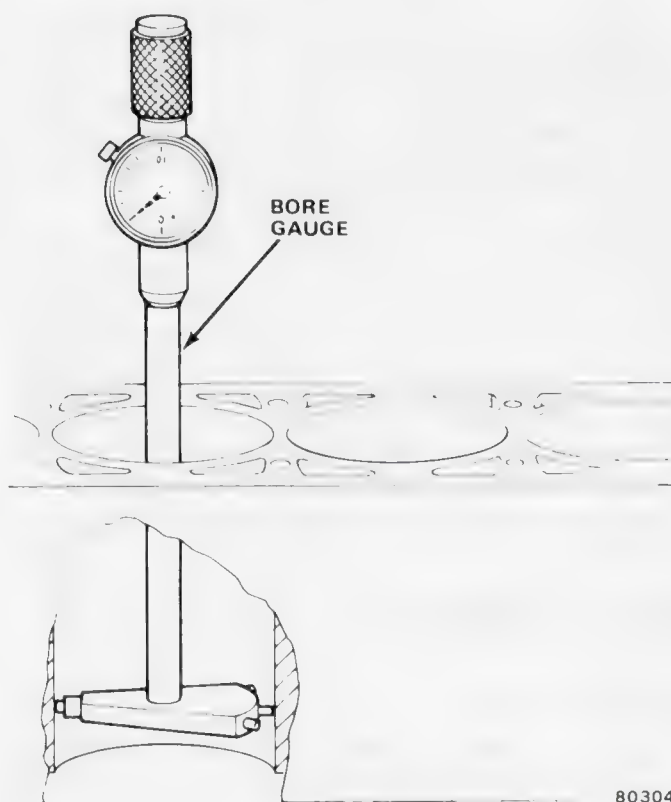

Fig. 1B-175 Measuring Cylinder Bore with Bore Gauge
- (1) Install and lubricate upper main bearing inserts and rear main upper seal. Lubricate seal lip.
- (2) Install crankshaft.
- (3) Install main bearing caps and inserts. If replacement bearings are installed, Plastigage each bearing.
- (4) Install replacement oil pickup tube and screen assembly. Do not attempt to install original pickup tube. Be sure plastic button is inserted in bottom of replacement screen.
- (5) Install camshaft.
- (6) Position piston rings on pistons. Refer to figure 1B-164 for proper ring gap spacing.
(7) Lubricate piston and ring surfaces with clean engine oil.
(8) Use piston ring compressor tool to install connecting rod and piston assemblies through top of cylinder bores.
(9) Install connecting rod bearing caps and inserts in same order as removed. Tighten nuts to 33 foot-pounds (45 Nm) torque.
(10) Install camshaft and timing chain.
(11) Install timing case cover and gaskets. Refer to Timing Case Cover.
(12) Install engine oil pan using replacement gaskets and seals. Tighten drain plug securely.
(13) Install vibration damper and damper pulley.
(14) Install cylinder head and replacement gaskets.
(15) Install valve tappets.